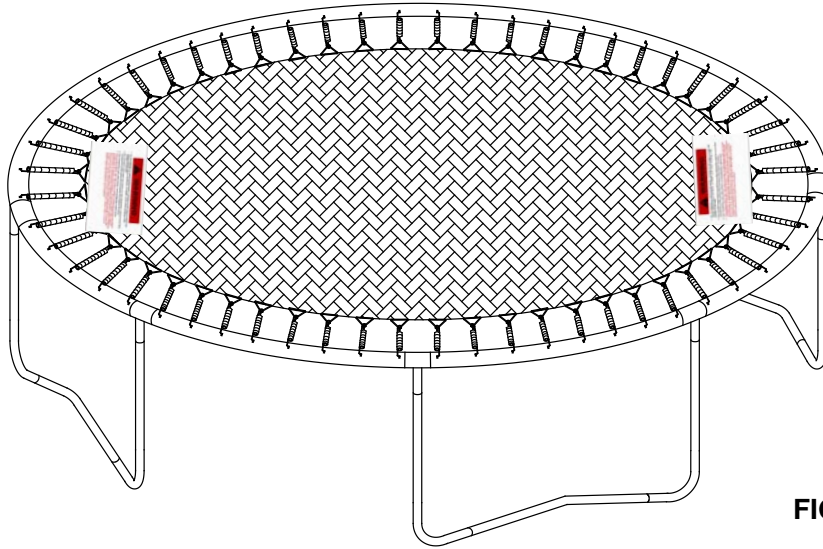

FIGURE 10
E. Finally, attach the remaining 40 springs by installing in even intervals of holes and on opposite sides in an alternative manner to ensure even distribution of tension. The complete installation of the trampoline mat should look as shown in FIGURE 10.